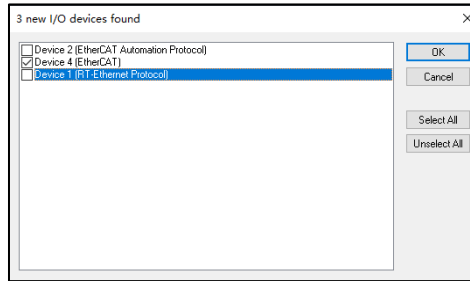

Figure 21: Choose the Correct Ethernet Port
- b. If the computer has more than one available port, select the correct Ethernet port (see Figure 21 on page 36).